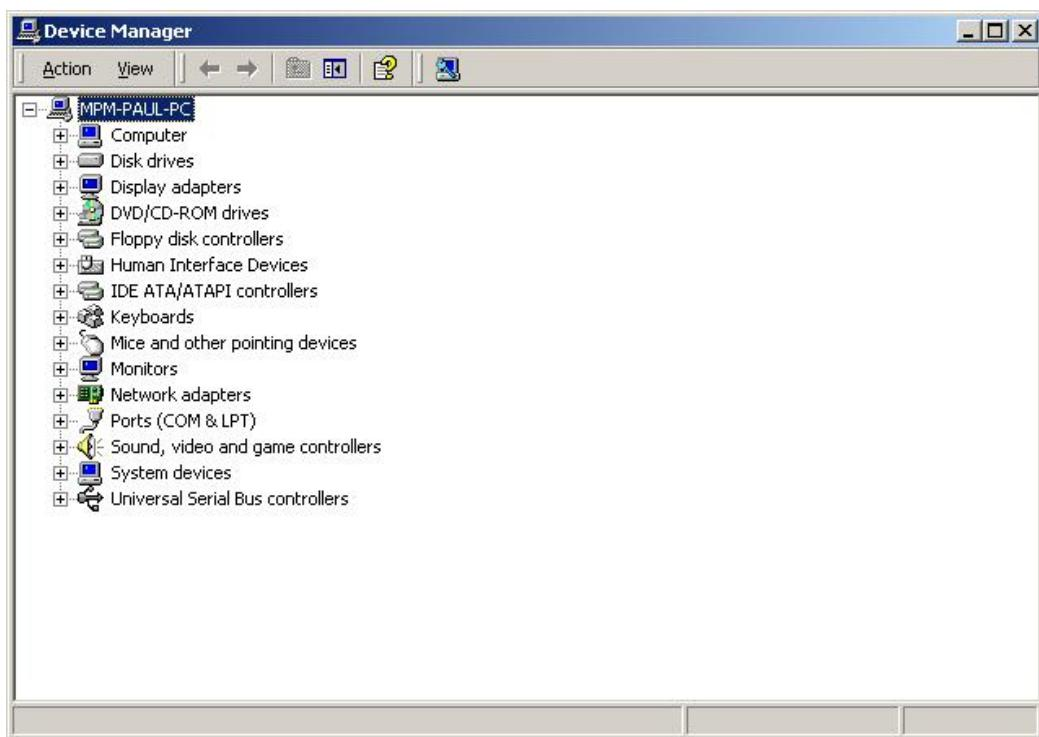

Figure 7-6: Device Manager List
Step 4: A list of system hardware devices appears (**Figure 7-6**).